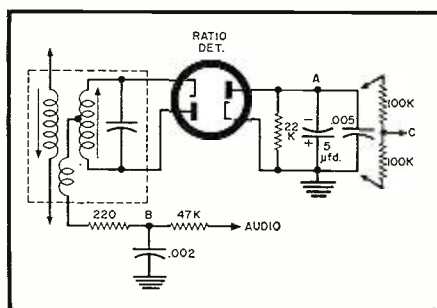

Fig. 1. Conventional TV ratio detector.
Let us give this matter a little thought. What do we use the jig for anyway? Fig. 1 shows a pair of 100,000-ohm resistors ready to be clipped across the ratio detector load. When they have been clipped on, we are instructed to connect a v.t.v.m. between points *B* and *C* and then adjust the ratio-detector secondary slug for zero volts on the meter.
6. Note the voltage obtained after adjustment in the preceding step. Next transfer the meter's d.c. probe to the center tap of the ratio-detector transformer—or any point connected to this center tap. This will be the already mentioned point *B* of Fig. 1. Now adjust the transformer secondary for *exactly half the voltage you obtained in the last step*. For accuracy, you may wish to repeat steps 5 and 6.